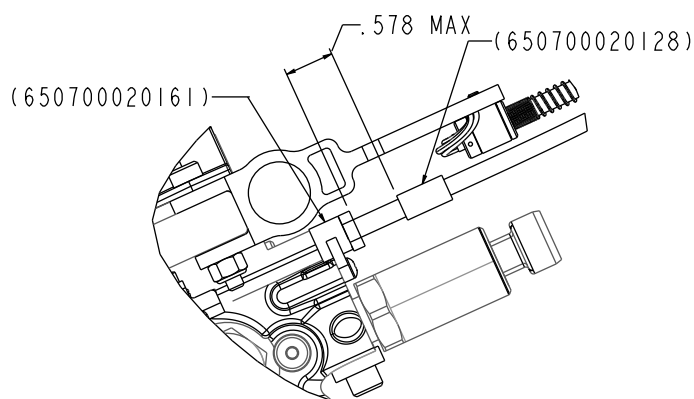

Figure 34 – Maximum distance
9. Make sure that the maximum distance between the cable jam nut and the manual release cable stem is 0.578" (Figure 34).